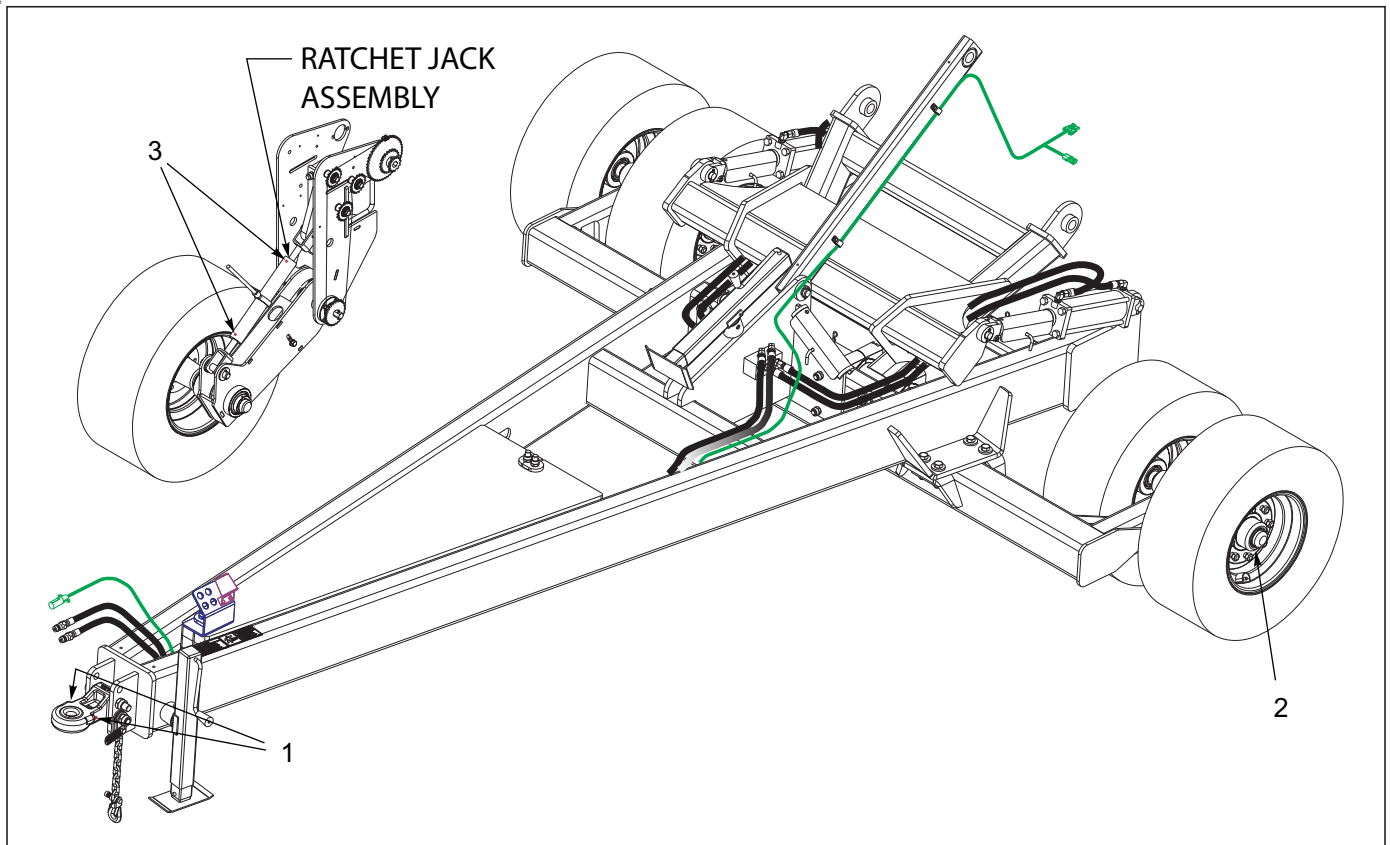

Figure 4-56: Lubrication Points
1. See Figure 4-56 specifies the lubrication points and intervals on the Grain Drill. Proper maintenance of your machine will, under normal operating conditions, help to keep it operating at or near its peak performance for an extended period of time. Proper maintenance is also a condition of keeping your warranty in good status “Maintenance & Lubrication” on page 4-46.